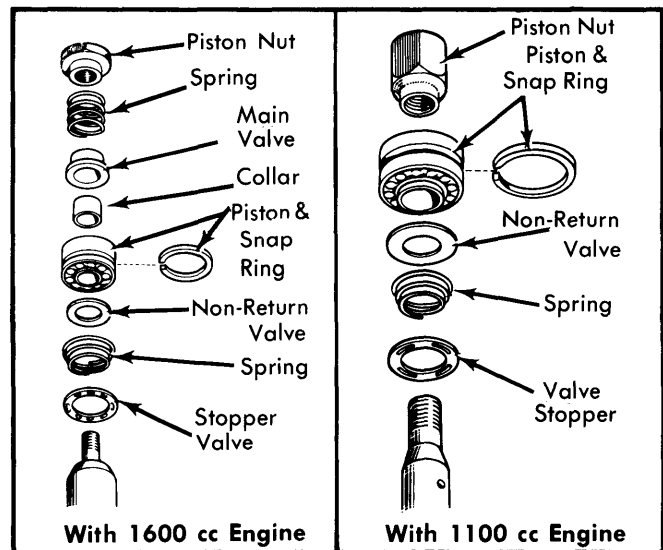

Fig. 2 Lower End Components of Piston Rod for Corolla Models
3) Lift shock absorber piston rod from cylinder. On Corolla, lower end components may be disassembled. Fig. 2. On other models, piston valve assembly on lower end is integral with piston rod.
- Follow appropriate illustration for reassembling Corolla piston rod components. Fig. 2.